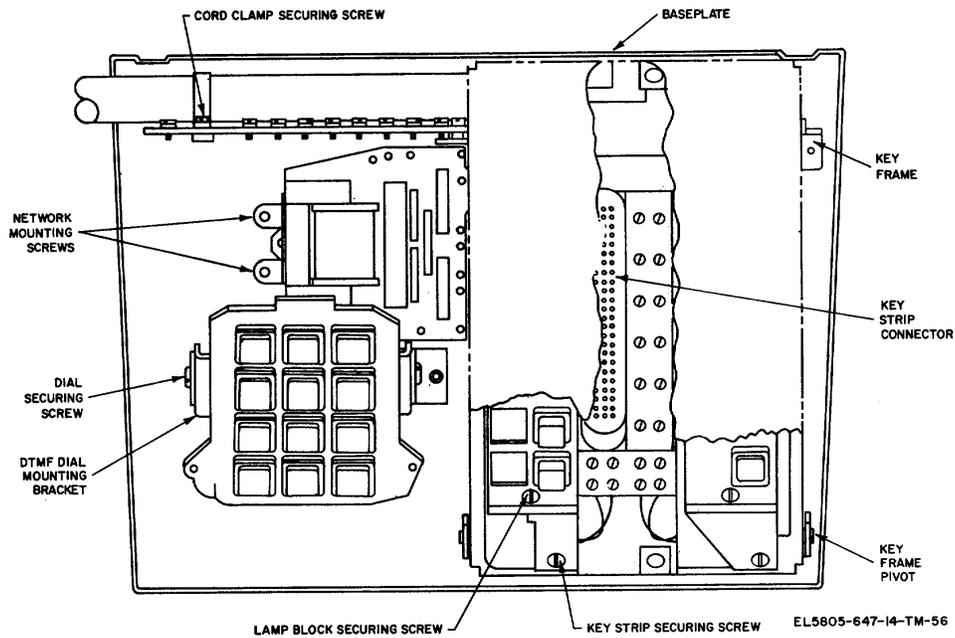

Figure 5-8. 18 button key frame, component mounting
Figure 5-8 shows a removed key strip from a rack-type telephone unit.
(1) Remove housing (d and e above).
(2) Disconnect all leads on the old network assembly.
(3) Remove two network mounting screws and loosen the third mounting screw. (Refer to figures 5-6 and 5-7 for desk type, and figure 5-8 for rack type.)
(4) Remove old network.